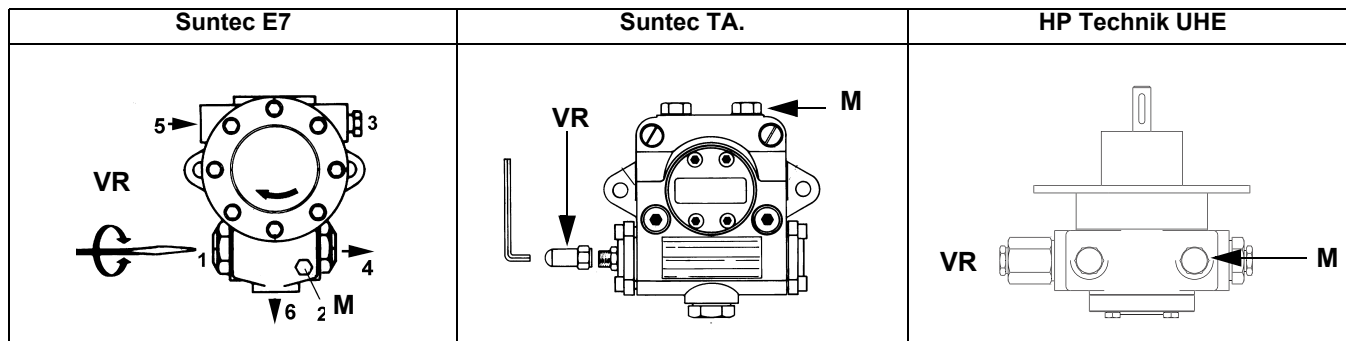
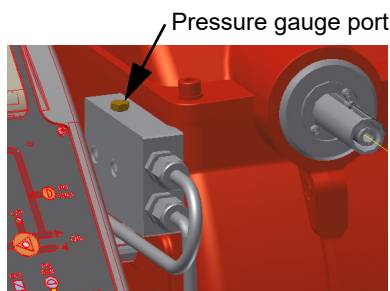

Fig. 12
Fig. 13
- 3 bleed the air from the **M** pressure gauge port (Fig. 12) by loosening the cap without removing it, then release the contactor.
- 5 Only if necessary, adjust the supply pressure as follows (see related paragraph); insert a pressure gauge into the port shown on Fig. 13 and act on on the pump adjusting screw **VR** (see Fig. 12) as to get the nozzle pressure at 20bar (Monarch or Fluidics nozzles - see page 40-38).